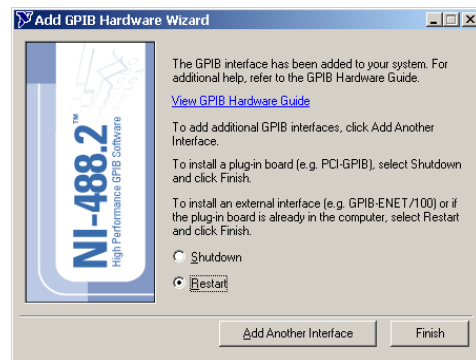

Figure 6B. Add GPIB Hardware Wizard, Restart
10. Page 2 of the **Add GPIB Hardware Wizard** will open (Figure 6B), indicating that it has installed the GPIB interface and giving you additional options. Select **Restart** and click on the **Finish** button.